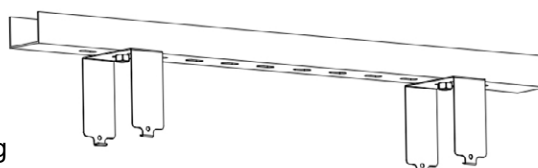

Figure 7
1. Mount the bracket on the rail or ceiling (See Fig. 7)